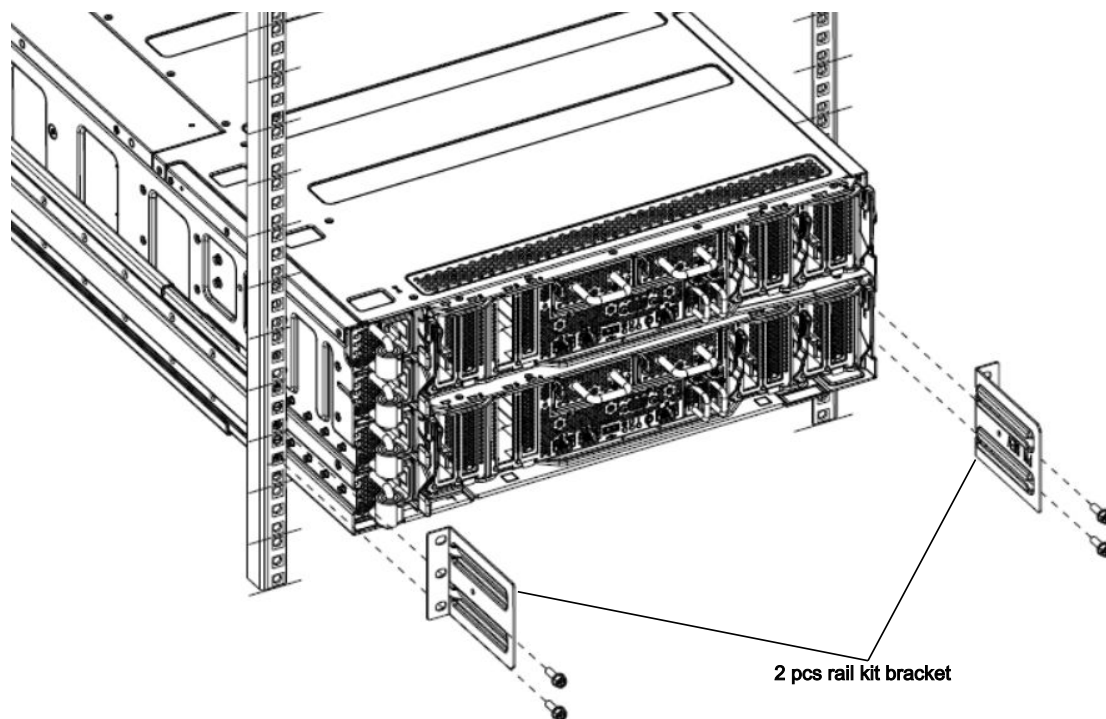

Figure 245. Installing the rail end brackets.
5. Fit the rail end brackets to the back of the control enclosure rails as shown in Figure 245 on page 332